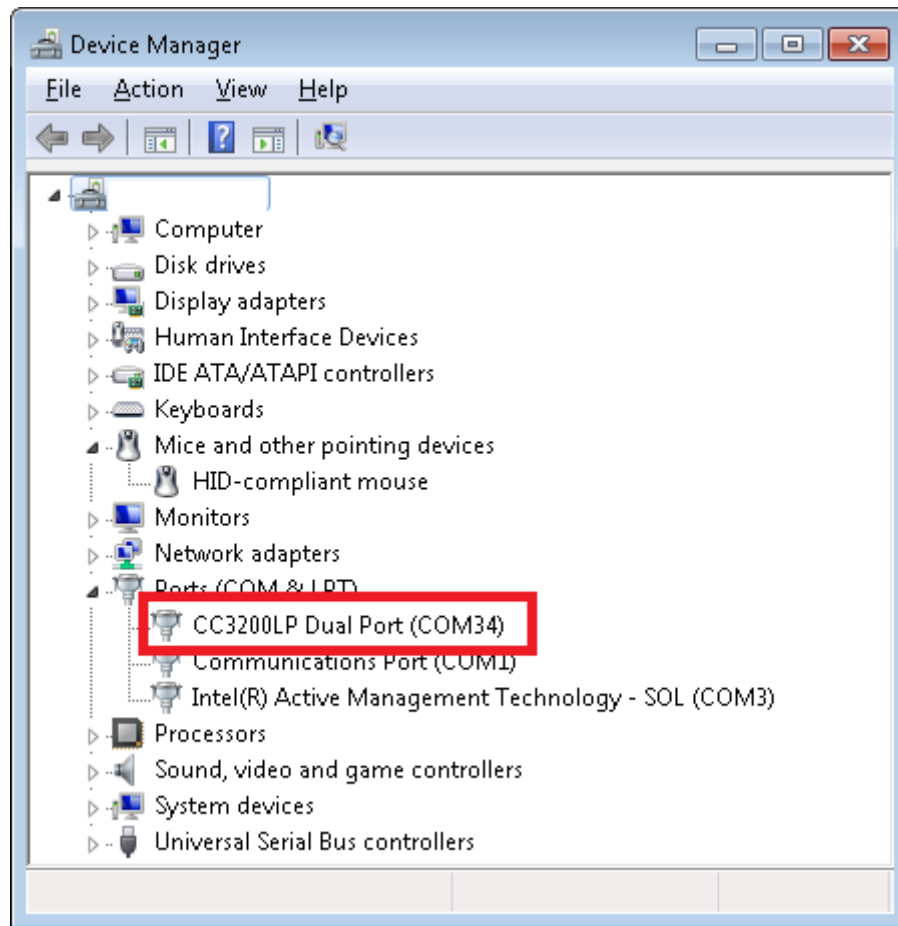

Figure 2. Device Manager
2. The CC3200-LAUNCHXL is now visible in the Device Manager as shown in Figure 2. Note the COM port number that appears.